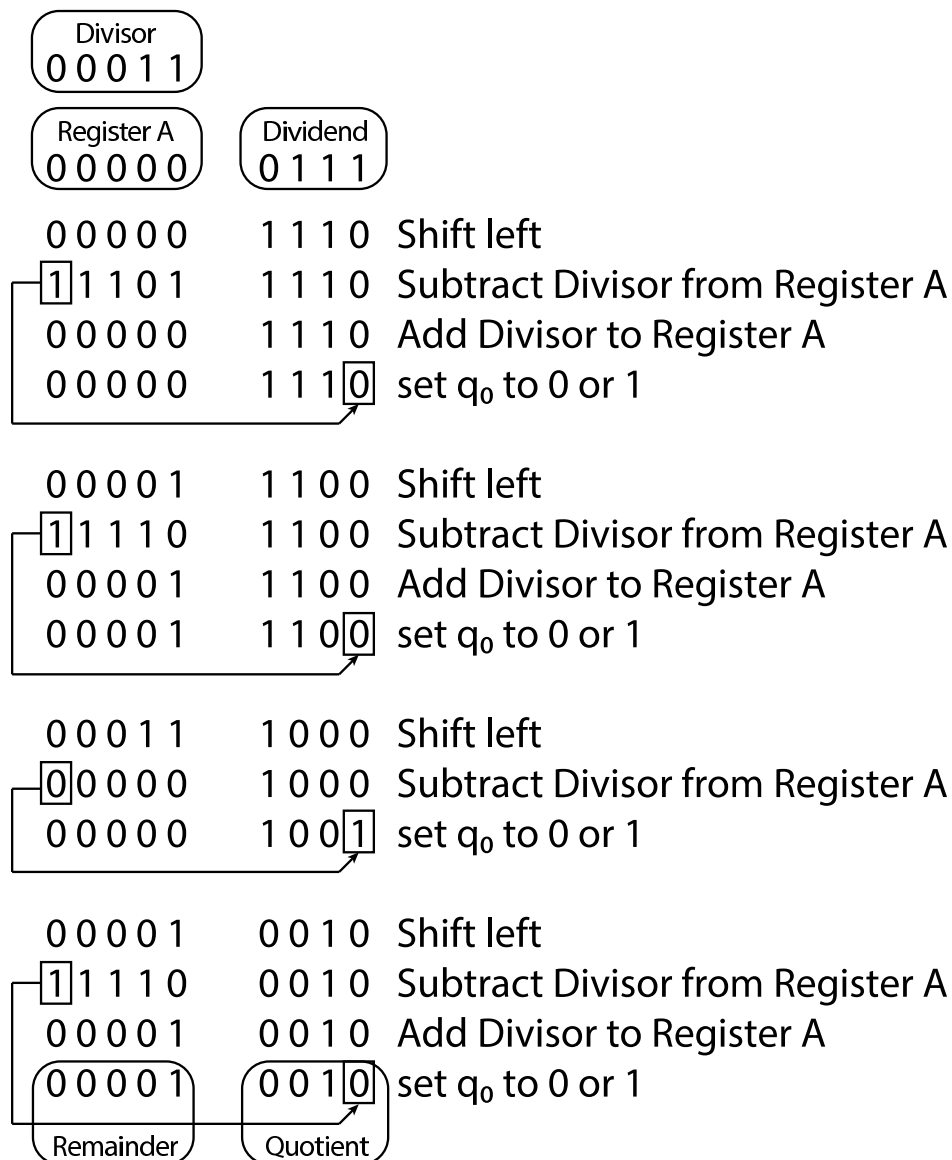

Figure 5: An example showing how the restoring divider works.
Figure 5 shows an example of how the restoring divider works. This mimics what you do when you do long division by hand. In this specific example, number 7 (*Dividend*) is divided by number 3 (*Divisor*). The restoring divider starts with *Register A* set to 0. The *Dividend* is shifted left and the bit shifted out of the left most bit of the *Dividend* (called the most
2. Draw the state diagram to control your datapath. Check it by hand simulating the example shown in Figure 5. Hand simulation just means to work through the steps
6. Simulate your circuit with ModelSim for a variety of input settings, ensuring the output waveforms are correct. Start with Figure 5 as an example because it shows you all the steps with the values that should be in the registers at each step.